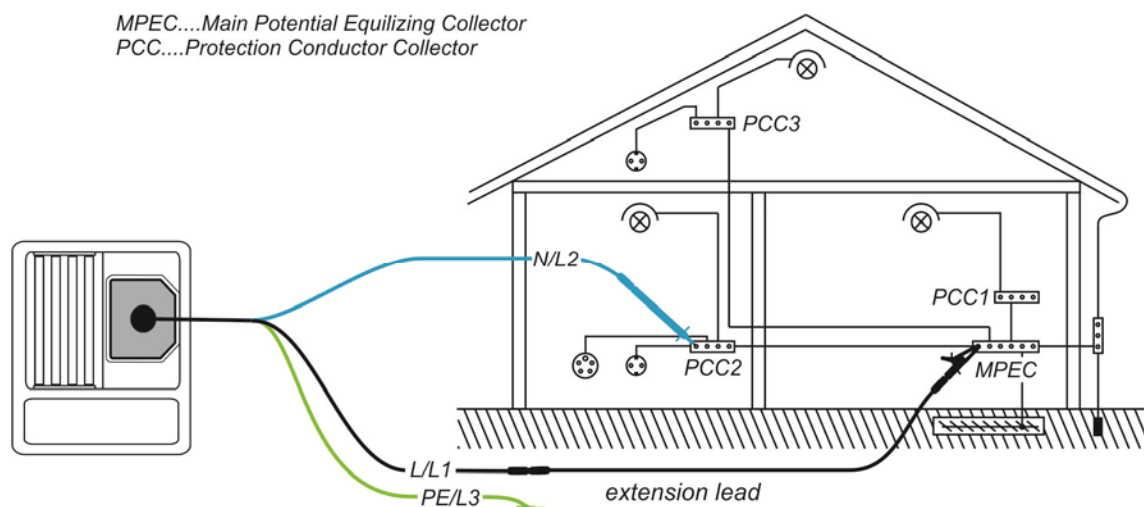

Figure 5.9: Connection of 3-wire test lead plus optional extension lead
- ❑ **Connect** the test leads to the appropriate PE wiring (see *Figure 5.9*).